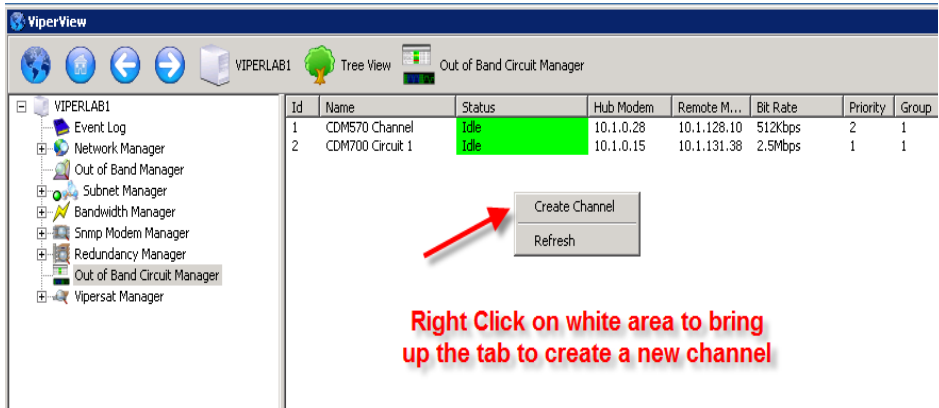

Figure 6-13 Out of Band Circuit Manager
1. Open the Out of Band Circuit Manager by left clicking on the icon in the tree view as illustrated in figure 6-13.